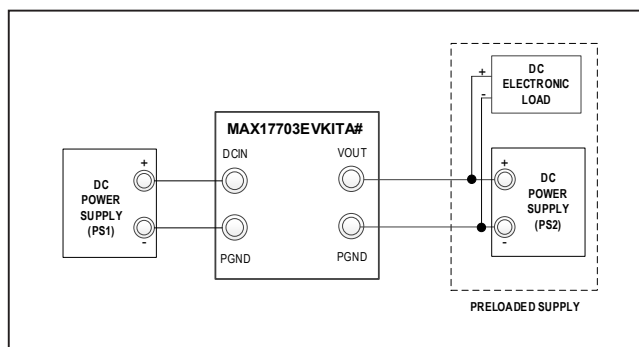

Figure 2. Preloaded Supply Connection with EV Kit
- 3) Set the electronic load (LOAD) at 12A in Constant Current (CC) mode and disable the load.
- 4) Connect PS1, PS2, and LOAD to the EV kit as shown in Figure 2.